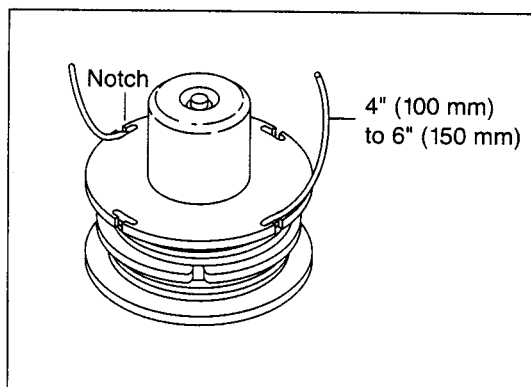

Fig. 26
4. Wind all but about 4" (100 mm) to 6" (150 mm) of the cord, leaving the ends temporarily hooked through a notch on the side of the spool (Fig. 26).